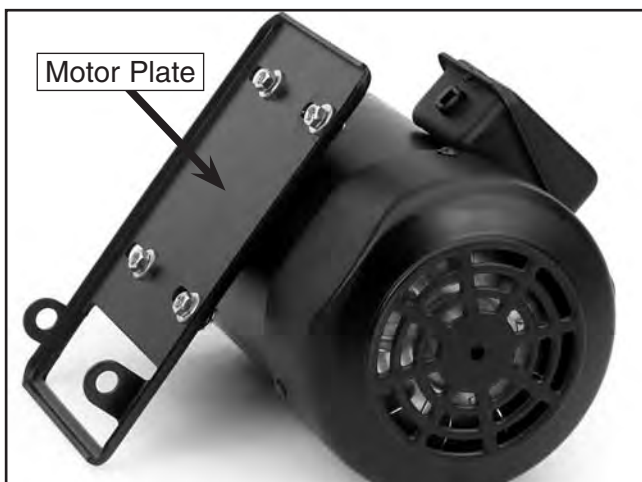

Figure 17. Installed motor plate.
- Using a 12mm wrench, loosely secure the motor to the motor plate with the hex bolts, the lock washers, the flat washers, and the hex nuts (**Figure 17**).